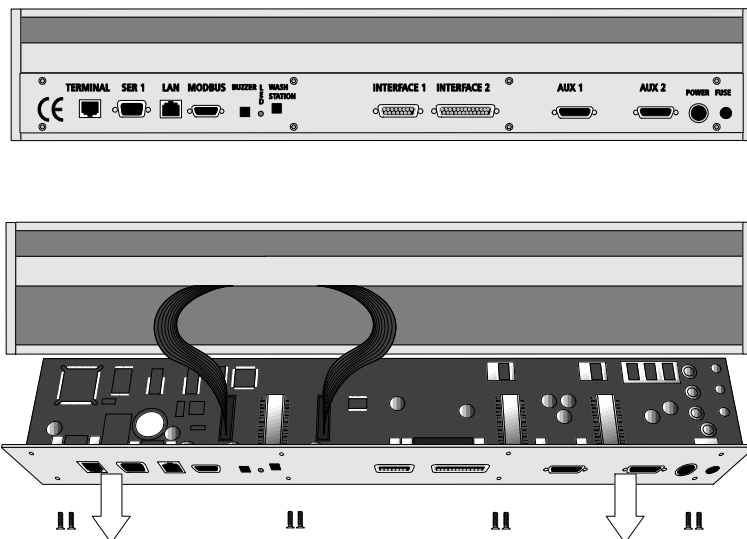

Figure 57. Replacing Control-*xt* Board
1. Follow the sequence shown in Figure 57 to detach and release the Control-*xt* board from its position inside the X-axis.